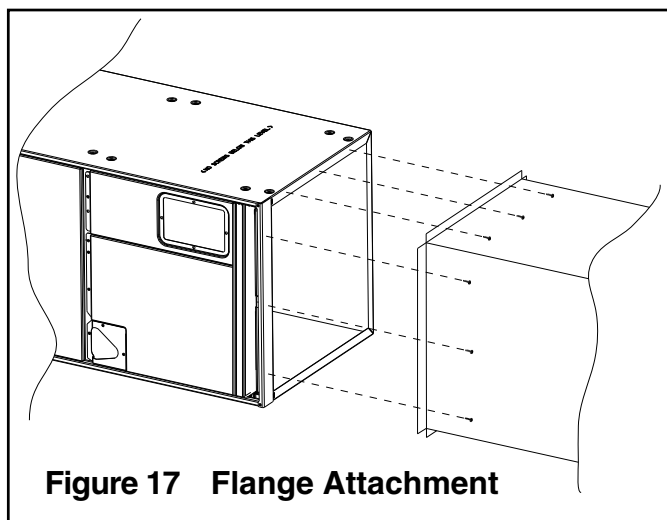

Figure 17 Flange Attachment
- h. **On units with sheetmetal returns: Return plenum must be flanged. Sheetmetal screws must be 1/2" in length or shorter. Self-tapping screws are supplied with unit in accessory pack.** See Figure 17.
- o. **On units with sheet metal returns: Return plenum must be flanged. Sheetmetal screws must be 1/2" in length or shorter. Self-tapping screws are supplied with the unit in accessory packet. See Figure 17.**
must be 1/2" in length or shorter. Self-tapping screws are supplied with the unit in accessory packet. See Figure 17.
- j. **On units with sheetmetal returns: Return plenum must be flanged. Sheetmetal screws must be 1/2" in length or shorter. Self-tapping screws are supplied with the unit in accessory packet.** See Figure 17.
NOTE: On units with sheetmetal returns: Return plenum must be flanged. Sheetmetal screws must be 1/2" in length or shorter to ensure no contact with air cleaner or components. Self-tapping screws are supplied with the unit in the accessory pack. See Figure 17.